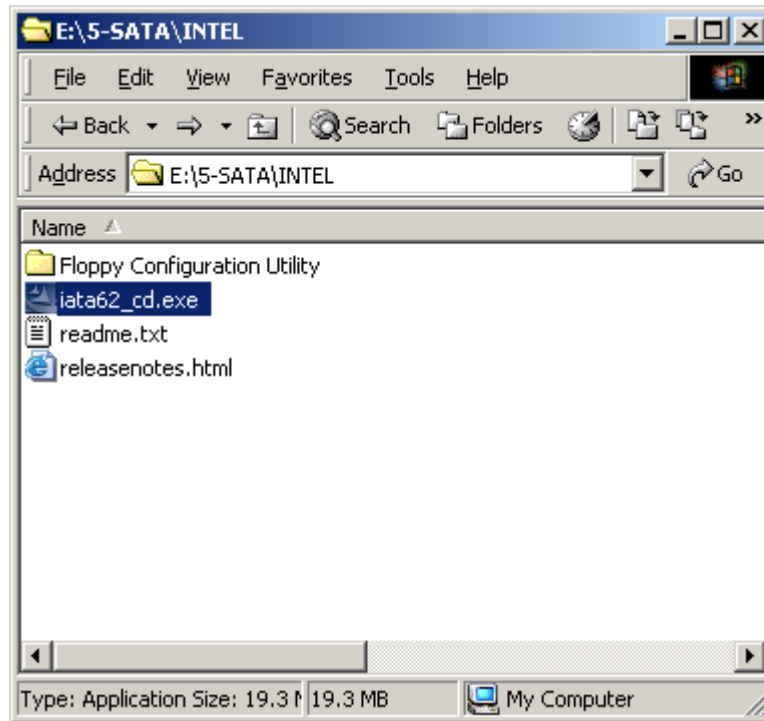

Figure 7-32: SATA RAID Setup Program Icon
Step 4: Double-click the **iata62_cd.exe** program icon in **Figure 7-32**.